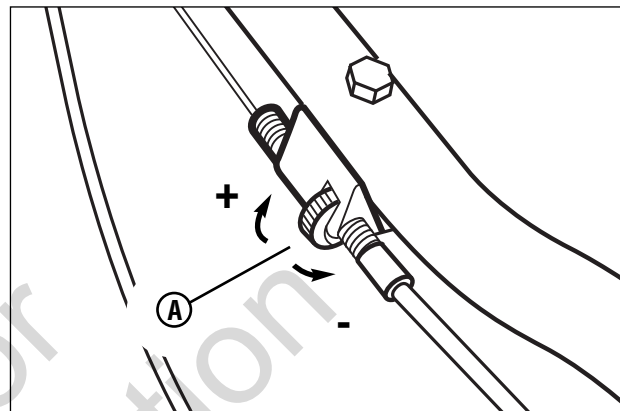

Figure 20: Adjusting the transmission spring tension
- b. To increase (+) the extended spring length, rotate the thumb wheel (**A**, **Figure 20**) upwards (counter-clockwise, from operator's perspective).